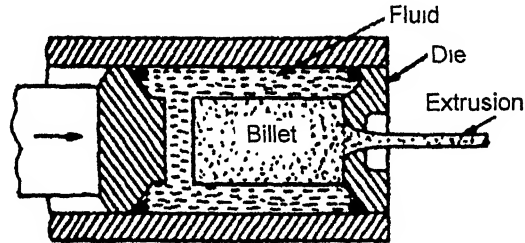

Fig. 9.25. Hydrostatic extrusion.
**Ans.** *Hydrostatic expansion* (Fig. 9.25) is an extrusion method in which the required pressure is applied through a fluid medium surrounding the billet. Although the presence of fluid inside the extrusion chamber *eliminates the container wall friction*, the process finds limited industrial application because of *need for specialised equipment and tooling and low production rate* (high set-up time).